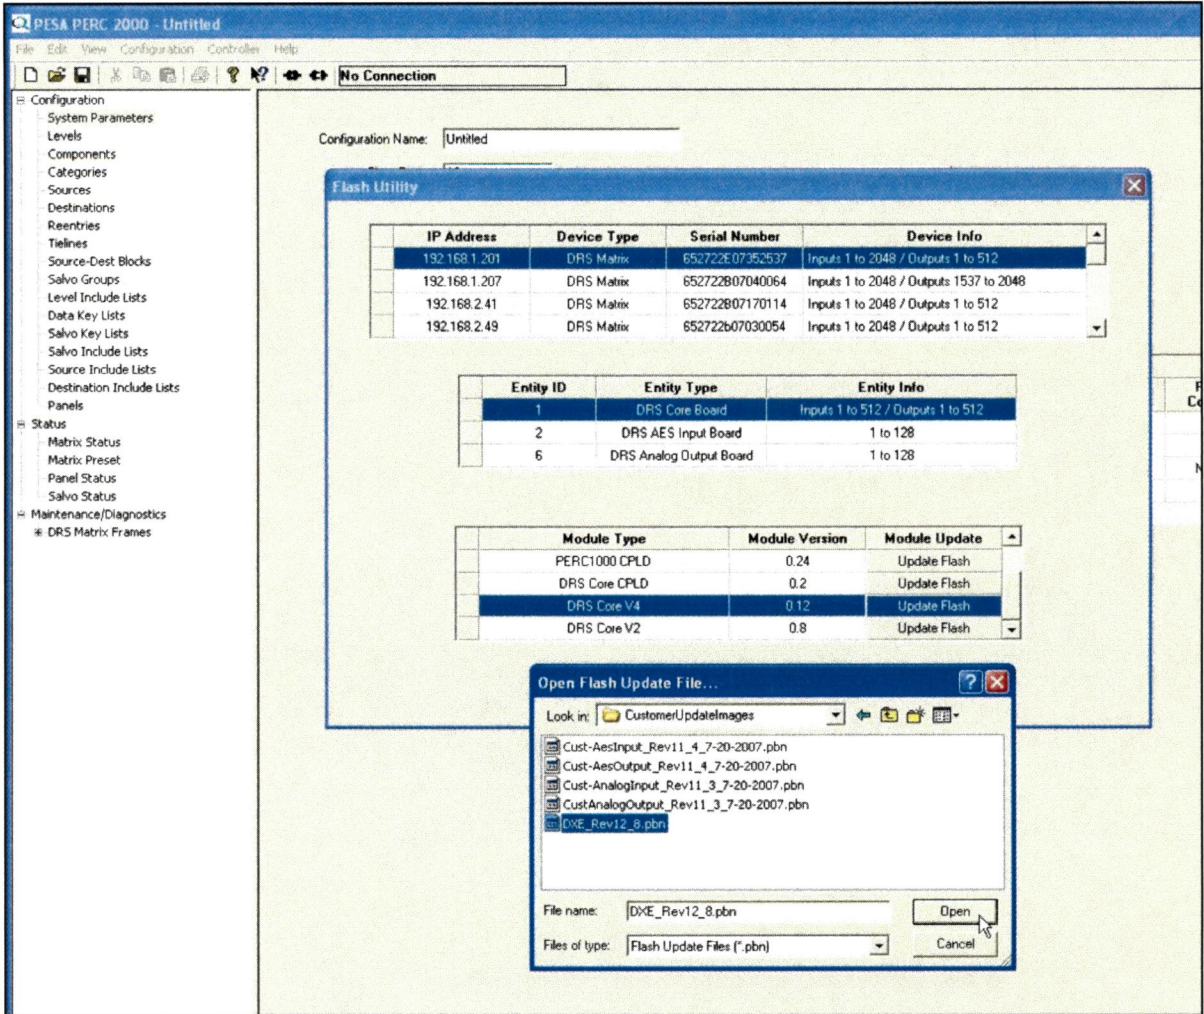

Figure 40. Open Flash Update File Browse Box
7. The Open Flash Update File window is displayed, Figure 40. Browse to the folder named DRS that you created in Paragraph 4 and open the folder named "CustomerUpdateImages." Locate and click on the file named **DXE_Rev12_8.pbn**. The file appears in the File Name box. Click the **Open** button on the window.